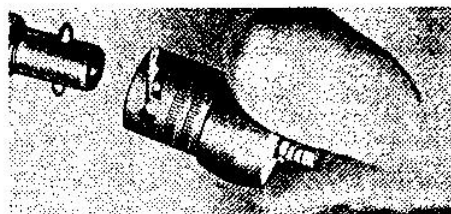

FIG. 10 - Connecting the 5329 Adaptor (Hydraulic to Pin Type) to fitting.
- b. Connect the 5329 Adaptor (accessory) to Pin Type Fitting (Fig. 10).